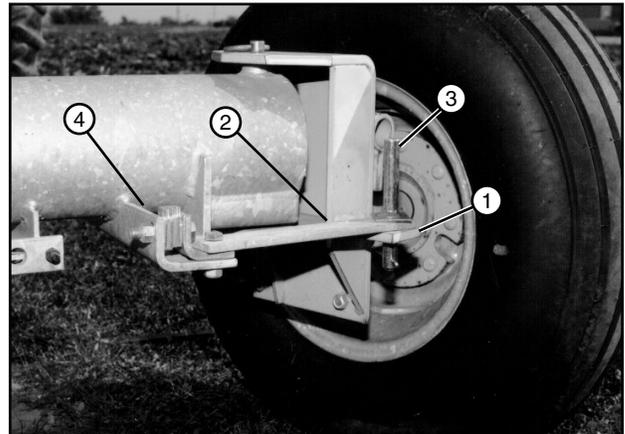

Figure 49-2 1. Steering Arm
13. Secure wheel in the swivel position with original hardware. See figure 49-2.